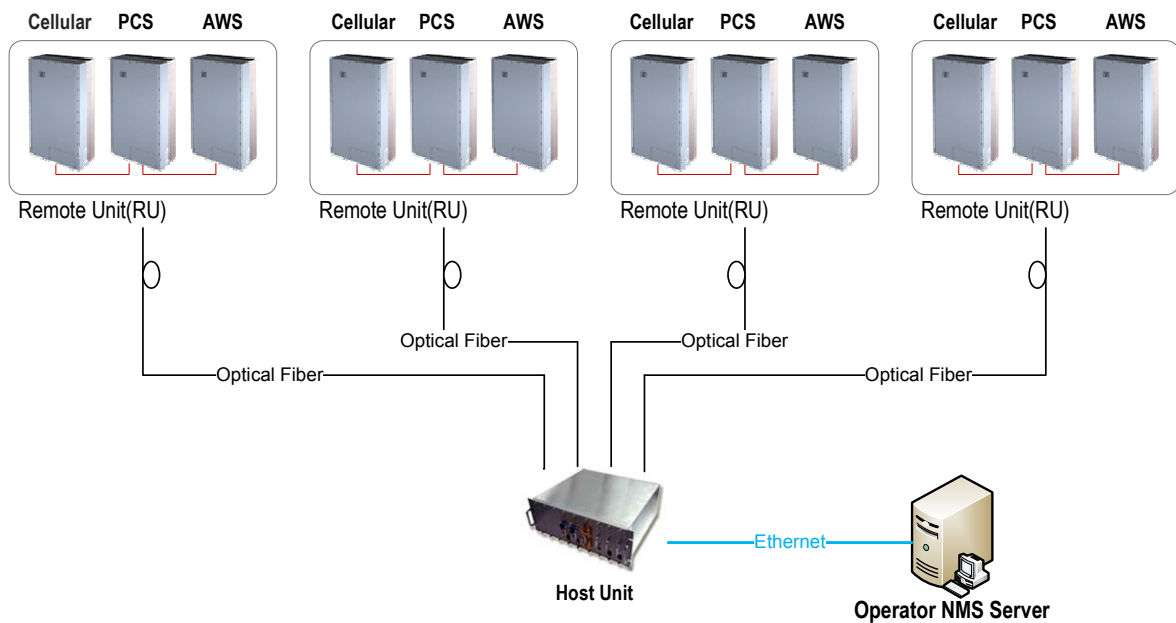

Figure 2-1. System Overview Structure
The basic components of Bravo Tech Inc. mBSC system and their functions are shown in Figure 2-1. A basic mBSC system consists of a Host Unit (HU) and a Remote Unit (RI). The Host unit has multiple slot assembly that mounts in a standard equipment rack. The RU consists of multiple electronic and optical modules for supporting multiple Standards, which mounts in outdoor wall or pole. Control and monitoring functions are provided by the Network Management System (NMS).